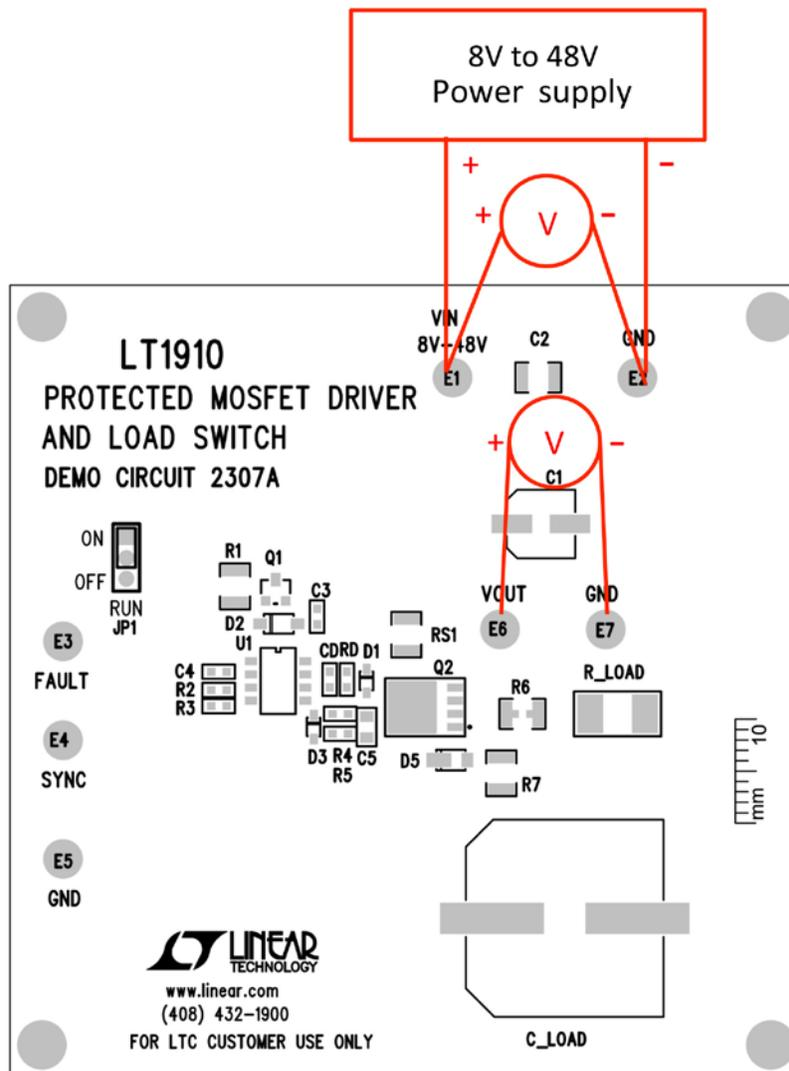
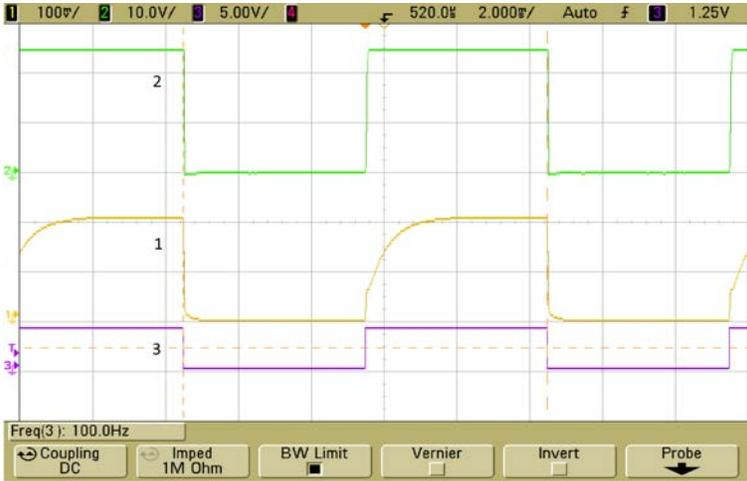
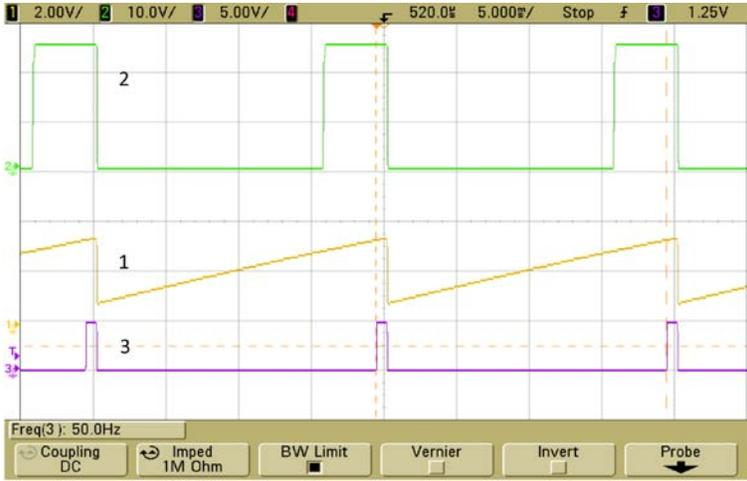

Figure 1. Proper Measurement Equipment Setup
Figure 2. High Side Driver Voltage Waveforms. CH 1 Q2 Gate Voltage Relatively to Source (5V/DIV), CH 2 VOUT, CH 3 Sync Signal.
Figure 3. Short-Circuit with Automatic Restart Voltage Waveforms. CH 1 Pin 2 (TIMER), CH 2 VOUT, CH 3 Pin 3 (FAULT).
The setup for DC2307A evaluation is shown in Figure 1. Sync pulses can be applied to terminals E4 (SYNC) E5 (GND) for synchronization to an external clock. In this case, the DC2307A supports a low bandwidth PWM. Figure 2 illustrates functionality of such solution with 100Hz switching frequency. Figure 3 shows the waveforms of the high side switch driver during a short-circuit with automatic restart.
Demonstration circuit 2307A is easy to set up to evaluate the performance of the LT1910. Set up the circuit according to the diagram in Figure 1.
1. With the DC2307A set up according to the proper measurement and equipment as shown in Figure 1, apply 20V at E1 (VIN). Measure VOUT; it should read 0V.